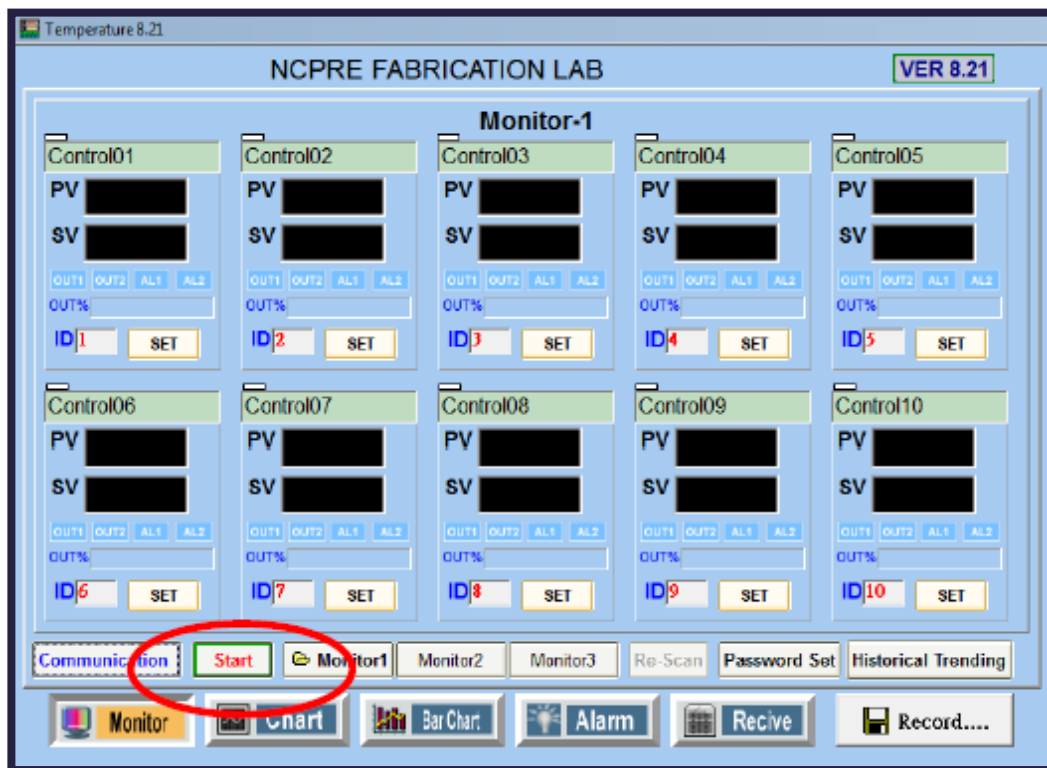

Figure. 17
6. Establish the communication between the software on the computer system and the hardware of the furnace temperature controller by clicking on “Start” tab in the window below of the “Monitor” tab (Figure. 17).